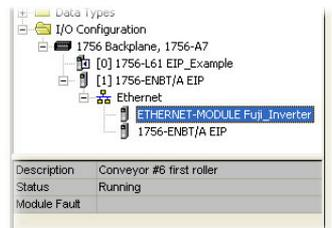

Figure 87: Online Module Status
- 7) Switch to online mode and download the project to the PLC. Verify that the newly-added inverter is available and operating correctly by observing any indications shown on the inverter's icon. When the inverter's icon is selected, its status and any available error messages will be displayed in the area below the project tree. Refer to Figure 87. Also confirm that the interface card's “Network Status” LED should be solid green, indicating an “online/connected” state.